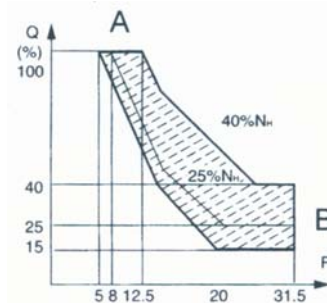

Figure 3-2 Variable Displacement Characteristic
For this pump, its flow pressure point (A) to the right and otherwise to move to the loft. The points all over the shadow area shown in Figure3-2 can be adjusted to obtain the characteristics required with the parallel method. The flow under high pressure makes the points (B) up and down, and the required flow will be achieved through the adjustment of holding serew (309).